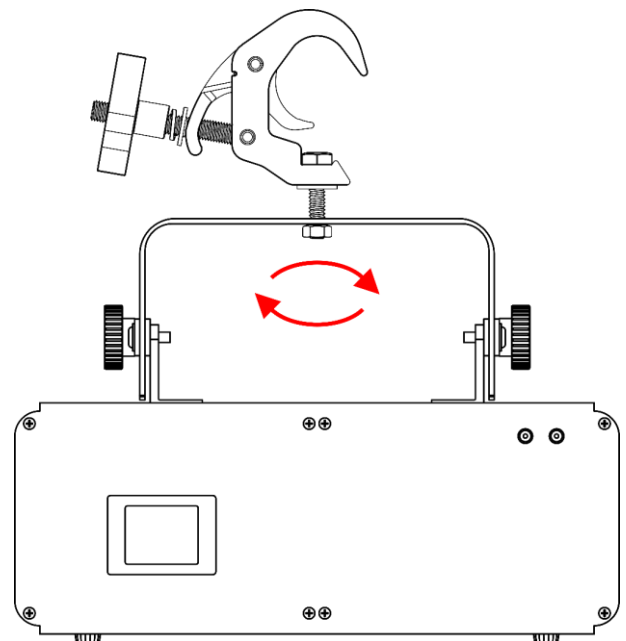

Fig. 06
- Fixed installation: Put the **hex nut (05)** on the **hex bolt (06)**. Turn the **hex nut (05)** clockwise, to tighten the load (Fig. 06).